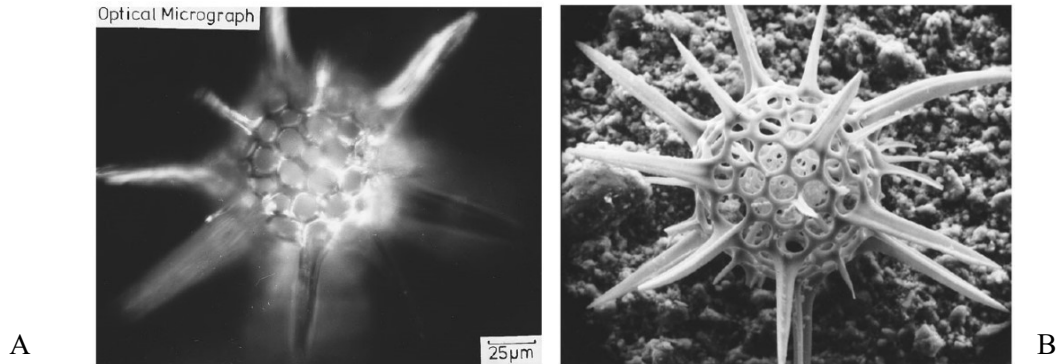

Fig. 3. (Taken from J.I. Goldstein et al., eds., Scanning Electron Microscopy and X-Ray Microanalysis, (Plenum Press, NY, 1980).)
Scattering components include secondary electrons (SE), backscattered electrons (BSE), Auger electrons (AE), X-Rays, cathode luminescence and other phenomena. They arise from different depth of the specimen and provide microscopic information about the specimen. This forms a basis for another advantage of the SEM over the OM described as depth of focus or an ability of a microscope to bring the features of an object at different depths into focus. Figure 3 shows that in the light microscopy image (A) only a portion of the radiolarian is in focus, while in the SEM image (B) the whole sample is in focus.